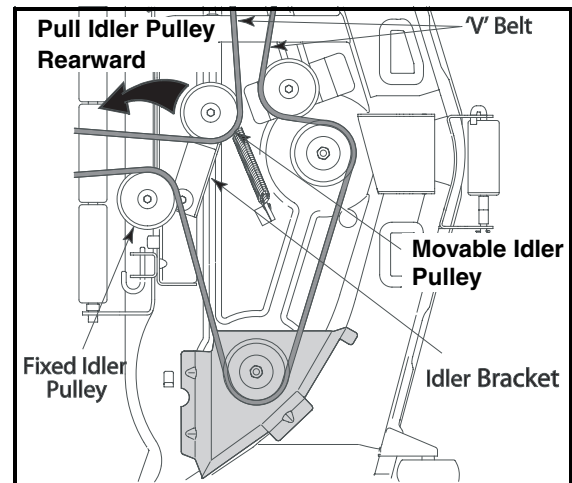

FIGURE 2
6. Working from the middle of the tractor, pivot the idler bracket and movable idler pulley rearward away from the back side of the "V" belt just far enough to lift the belt up and over the idler pulley. See Figure 2.